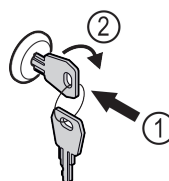

Fig. 143 Example illustration
- Insert key Fig. 143 (1).
- ▶ Turn key clockwise by 90° *Fig. 143 (2)*.